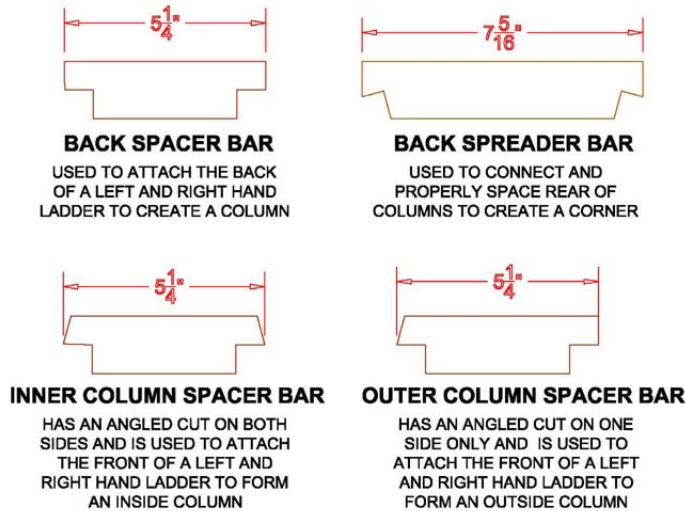

Figure 1
1. Locate a right and left side ladder. You will notice that the top of the ladder has horizontal slats flush with the top of the uprights, while the bottom slats are set in $1\frac{3}{4}$ " from the bottom of the uprights. The ladder fronts are distinguished by slats that have an angled face, while the backs show the square ends of the horizontal slats (**See Parts List**). The other piece you will need to find is your spacer bar. Notice that you have four different types of spacer bars. Your first column will require an outer column spacer bar (**Figure 1**).
6. Carefully flip the assembly onto its front. Attach the back spacer bars to the back of the assembly in the same manner as used for the front. All back spacer bars have two squared sides (**Figure 1**).
8. Now you have the two end columns of your segmented corner rack. Locate another set of ladders (a right and left piece); repeat steps 2 thru 6 using your front inner column spacer bars (**Figure 1**).